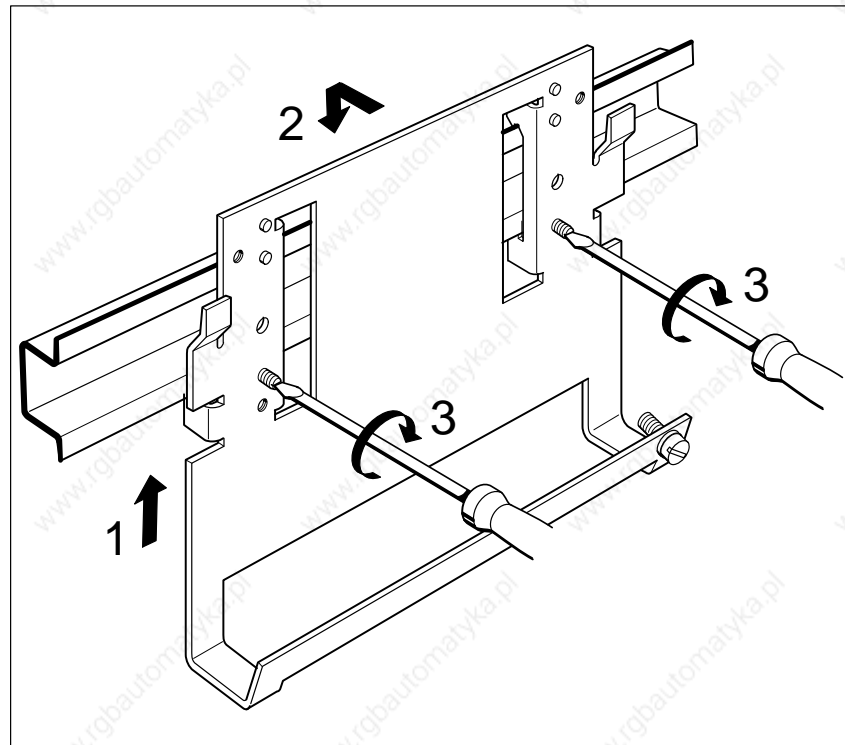

Figure 3-3 Mounting the Shield Connecting Element on the Standard Sectional Rail
2. Remove the terminal block and the shield connecting element in the reverse sequence to that described in Figures 3-3 and 3-4.